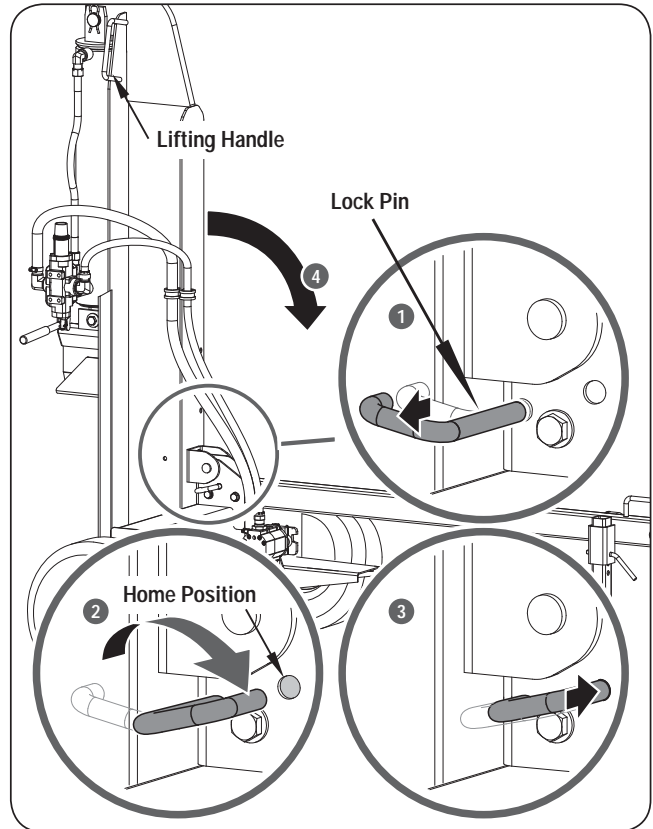

Figure 9b
3. Pull out the lock pin back to the home position. (See *Figure 9b.*)